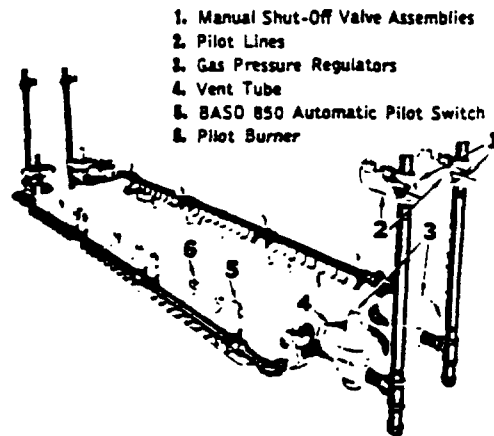

FIG. 28—Connecting Controls
1. Connect pilot line from the pilot cock on front BASO 500 Series automatic pilot valve in main gas line to BASO 808 series automatic pilot valve (See Figs. 14 and 27). Connect line from 1/8 inch tee at outlet of BASO 808 series valve to front pilot burners. If more than 2 front pilot burners are installed, there should be an additional BASO 808 series valve attached in series with the first, (use 1/8 inch close nipple) one for each additional pilot burner. The outlet tee is taken from the outlet of the last BASO valve in the series. (For the 22 section boiler, the last two BASO 808 series automatic pilot valves are located adjacent to the right combustion chamber with an aluminum extension tube connecting them to the first two. See Fig. 28). Connect a bypass line from the tee in the main gas line to the push button valve which is attached to the outlet of the last BASO 808. Attach BASO 808 valve to bracket with two 10-24 screws and attach brackets to jacket with two sheet metal screws each. See Fig. 14 for the location. Connect a similar pilot line to the rear pilot burners.